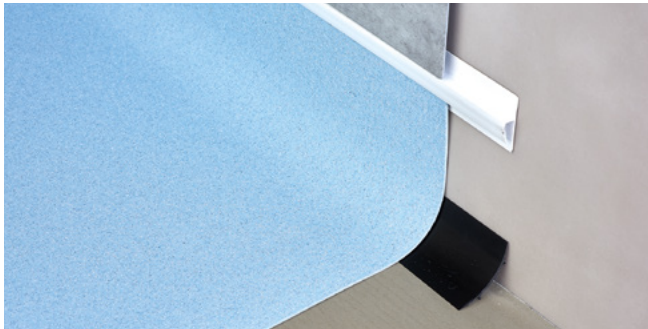

Figure 10 Fitting to Ceramic tiles
3.14 FITTING TO CERAMIC WALL TILES (CT strip) Figure 10